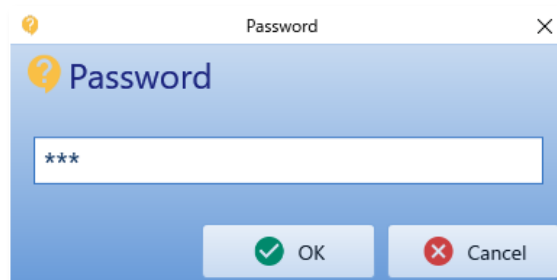

Figure 6.56 “Password” window
- (3) Choose firmware updating file from [Browse].
- (4) Display “Password” window by clicking on [Start update]. (Figure 6.56)